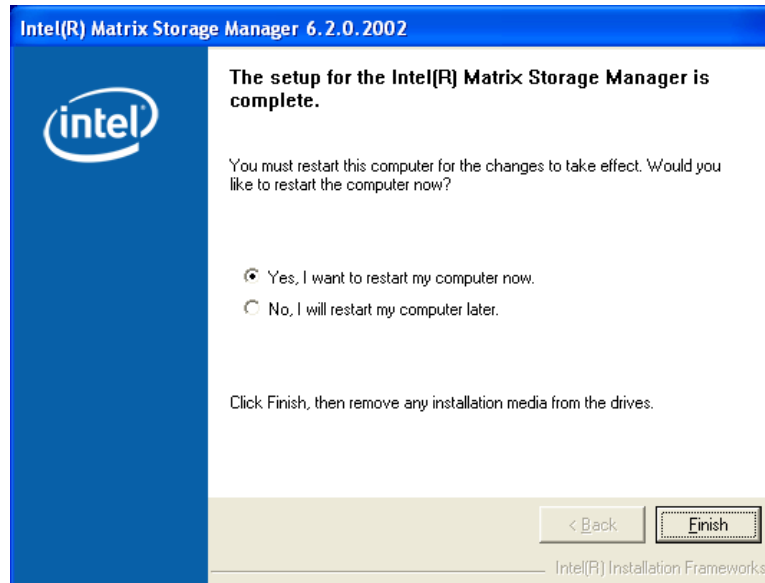

Figure 7-43: Matrix Storage Manager Setup Complete
Step 12: After the driver installation process is complete, a confirmation screen appears (Figure 7-43).